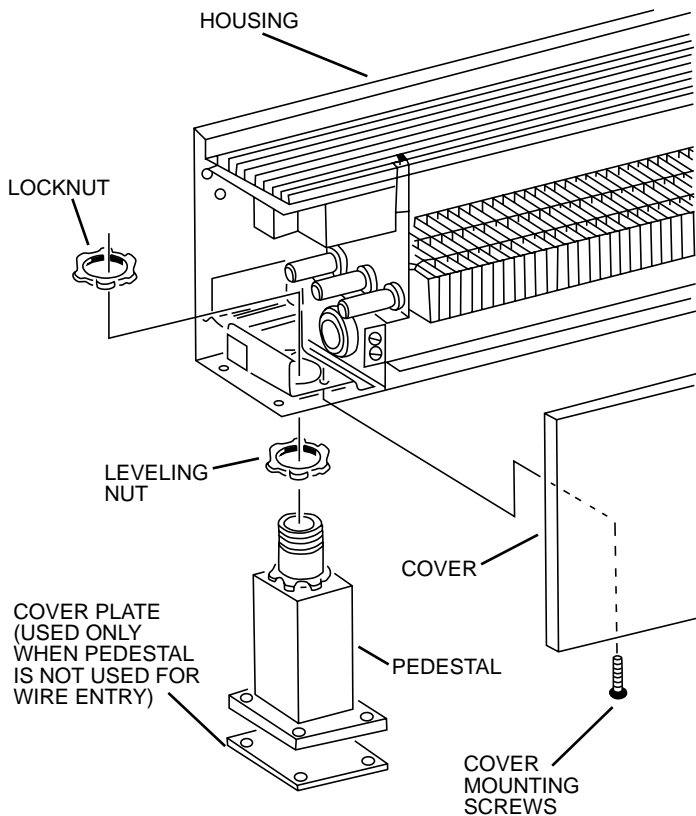

Figure 2.
**NOTE: When pedestal is not used for wire entry, pedestal base must be covered with cover plate (supplied with pedestal). See Figure 2.**
1. Remove from cover by removing mounting screws (Figure 2).
1. Remove front cover by removing mounting screws (Figure 2).
6. Replace front cover and secure with mounting screws (See Figure 2).
6. Replace front covers, and secure with the mounting screws. (Figure 2)